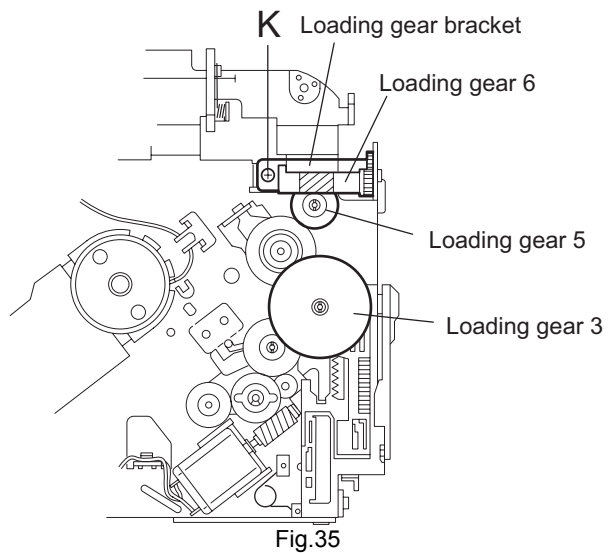
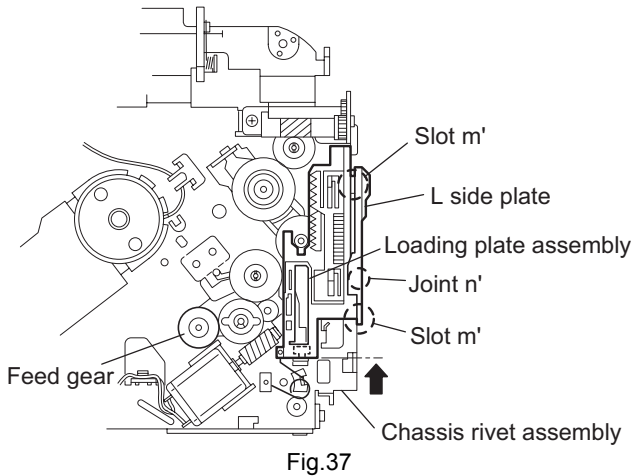
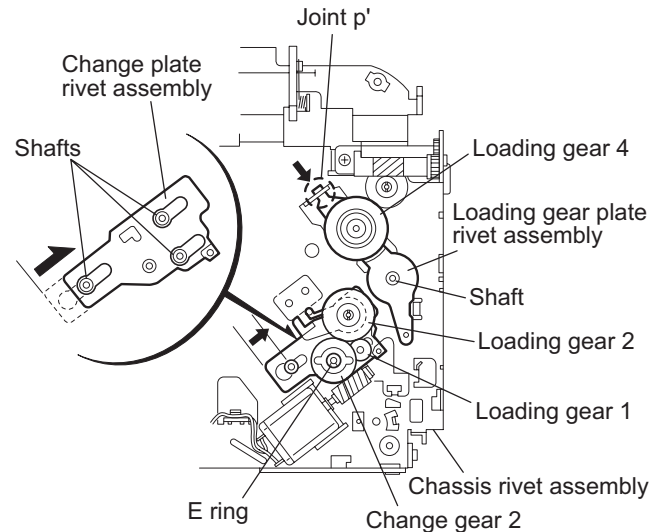

Fig.35
Fig.37
Fig.38
(See Figs.35 and 36)
2.2.17 Removing the gears (See Figs.37 to 40)
- Pull out the loading gear 3. (See Fig.35.)
- (1) Pull out the feed gear.
- (2) Move the loading plate assembly in the direction of the arrow to release the L side plate from the two slots m' of the chassis rivet assembly. (See Fig.37.)
- (3) Detach the loading plate assembly upward from the chassis rivet assembly while releasing the joint n'. Remove the slide hook and loading plate spring from the loading plate assembly.
- (4) Pull out the loading gear 2 and remove the change lock lever.
- (5) Remove the E ring and washer attaching the changer gear 2.
- (6) The changer gear 2, change gear spring and adjusting washer come off.
- (7) Remove the loading gear 1.
- (8) Move the change plate rivet assembly in the direction of the arrow to release from the three shafts of the chassis rivet assembly upward. (See Fig.38.)
- (9) Detach the loading gear plate rivet assembly from the shaft of the chassis rivet assembly upward while releasing the joint p'. (See Figs.38 and 40.)
- (10) Pull out the loading gear 4.